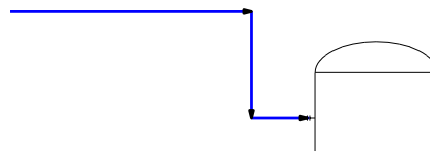

Figure 2-51 Reflux line connected to the vessel
4. Create another line by specifying the start point at 4,17. It should be similar to the line shown in Figure 2-51. Assign tag **4"-CS150-P-1000** to the line.